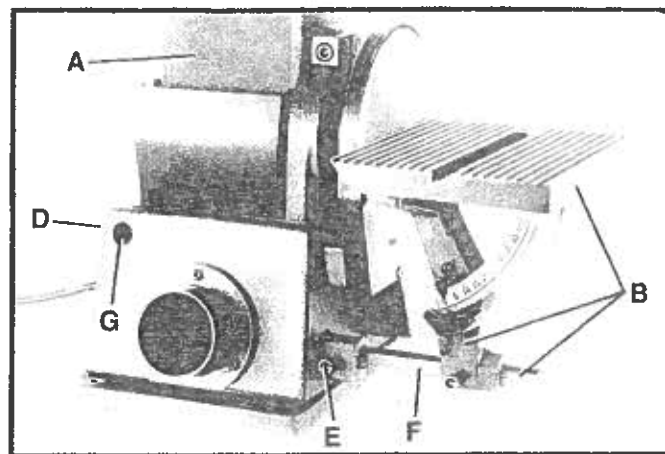

Fig. 36
When the sanding arm (A) Fig. 36, is used in the vertical position, the complete table assembly (B) can be moved from the disc unit to the belt unit as follows:
2. Locate and thread the 13/16" (20mm) long socket head screw (D) Fig. 36, into base casting as shown. **NOTE:** Only thread screw (D) partway into base casting.
3. Loosen screw (E) Fig. 36, and remove support bar (F) and table assembly (B) from disc unit. Insert bar (F) into hole (G) on belt unit and tighten screw (D).